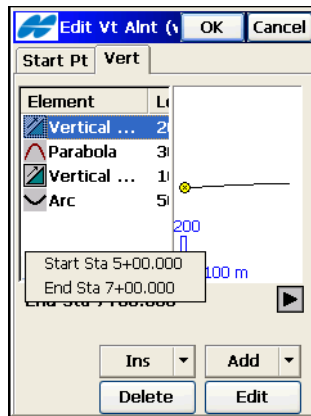

Figure 7-17. Information on Start and End Stations
- Tap *Station* information under the list of elements or long sections to view the start and end stations for the selected item (Figure 7-17 on page 7-16).
- Tap **OK** on the **Add Vt Alnt** screen (Figure 7-17) to save the vertical alignment created and return to the **Vt Alnt** screen. The new vertical alignment will be displayed in the list.
1. To add a vertical grade, select the *Vertical Grade* option from the **Insert** or **Add** floating menu on the *Vert* tab of the **Edit Vt Alnt** screen (Figure 7-17 on page 7-16).
1. To add a curve, select the *Curve* option from the **Insert** or **Add** floating menu on the *Vertical* tab of the **Edit Vt Alnt** screen (Figure 7-17 on page 7-16). The **Curve** screen displays.
5. Tap **OK** to save the element to the road and to return to the **Add Vt Alnt** screen (Figure 7-17 on page 7-16).